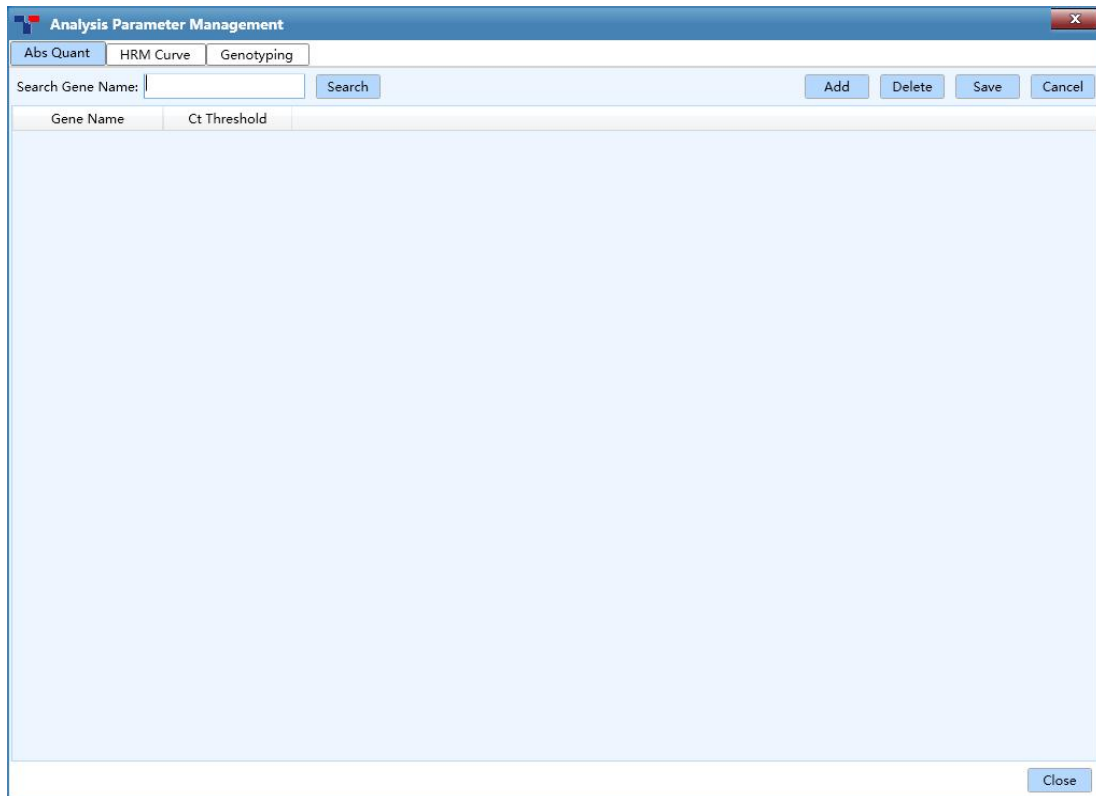

Figure D-3.6a Parameter Management interface - Abs Quant tab
- ▶ **Abs Quant** tab: the analysis parameter management interface displays the **Abs Quant** tab by default, as shown in figure D-3.6a. User can manage the analysis parameters of specific or multiple genes for absolute quantitative experimental results analysis.